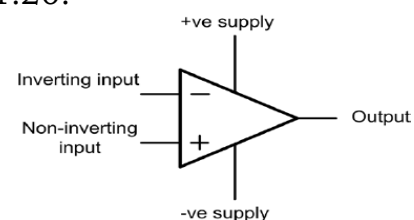

Fig. 1.20: Symbol for an operational amplifier
- The symbol for an operational amplifier is shown in Fig. 1.20.